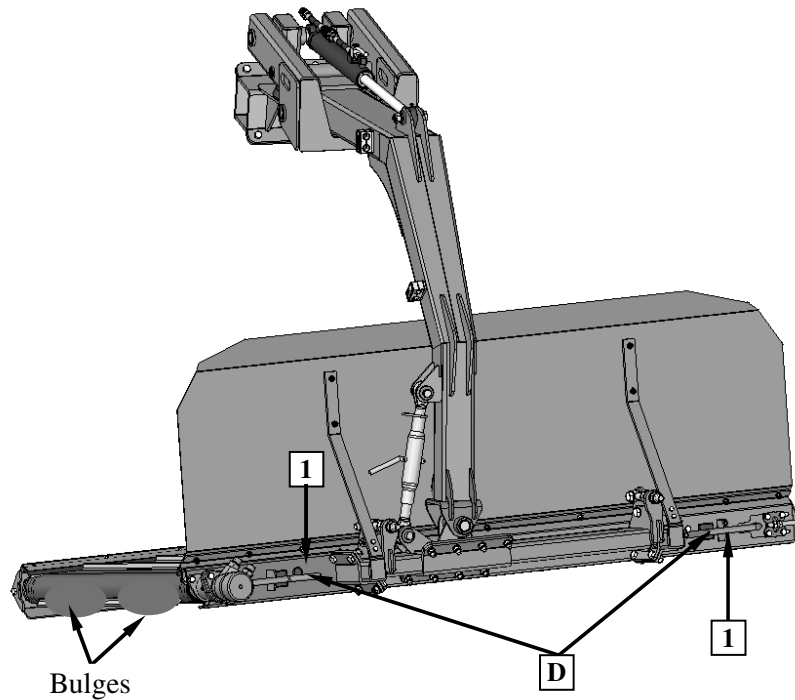

Fig. 35. Cleaning conveyor rollers
1. In order to clean roller switch lever **D**, rotate belt to **1** and hold down until bulges disappear (**Fig. 35**). This should also be performed from the other side of conveyor if necessary.